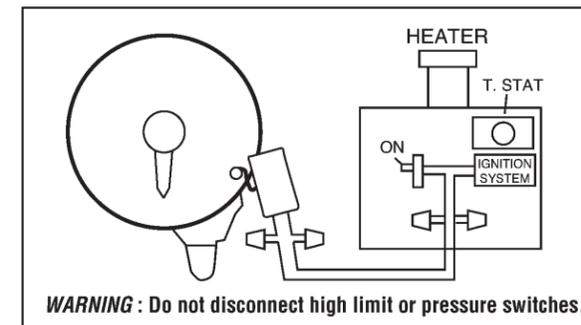

Figure 2
5. If required by the heater manufacturer, install fireman switch kit 156T4042A (not furnished) on Time Switch Plate and make the fireman switch connections. Use at least #18 AWG wiring with insulation rated 300 Volt or higher. Place heater ON/OFF switch on heater to **ON** (see Figure 2 on page 3). Some heaters may require a special connecting harness, contact heater manufacturer for details.